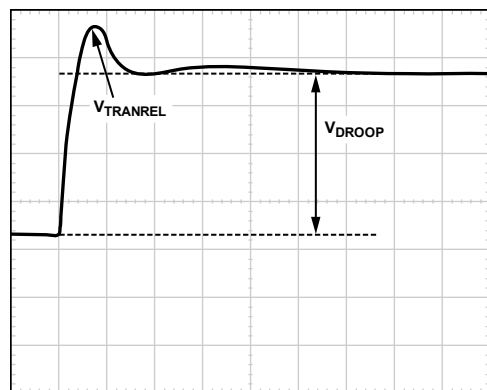

Figure 17. Transient Setting Waveform
3. For load release (see Figure 17), if  $V_{TRANREL}$  is larger than the allowed overshoot, there is not enough output capacitance. Either increase the capacitance directly or decrease the inductor values. If the inductors are changed, however, it will be necessary to redesign the circuit using the information from the spreadsheet and to repeat all tuning guide procedures.